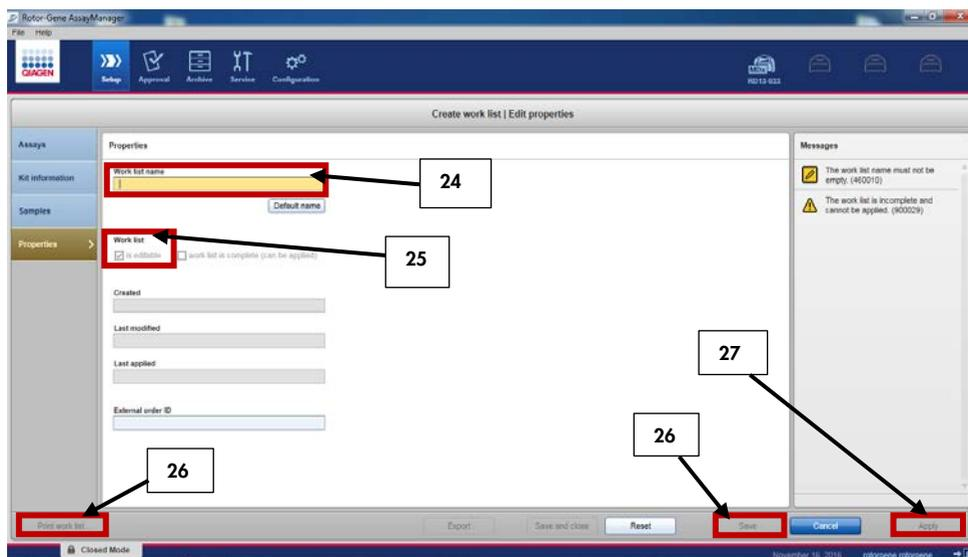

Figure 11. Creation of the worklist.
24. Select “Properties” and enter a work list name (Figure 11).